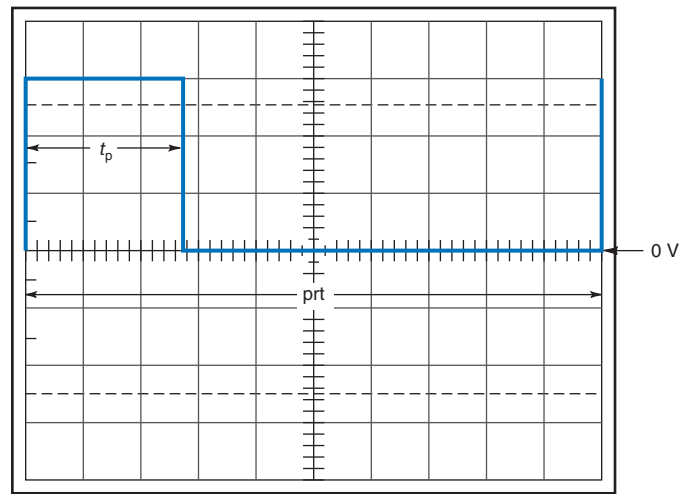

Figure 26-30 Vertical: 1 V/div; horizontal: 10 ns/div.
26.3 In Fig. 26-30, what is the width of the positive pulse width and the period? Calculate the duty cycle.